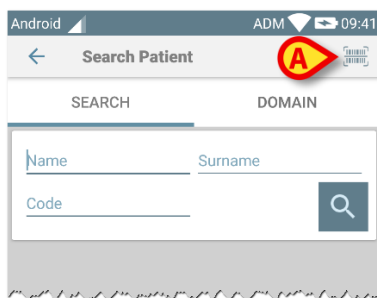

Fig 178
- Touch the  icon indicated in Fig 178 **A**
- Touch the side button dedicated to barcode scan (the button indicated in Fig 178 **A** is not present in this case);